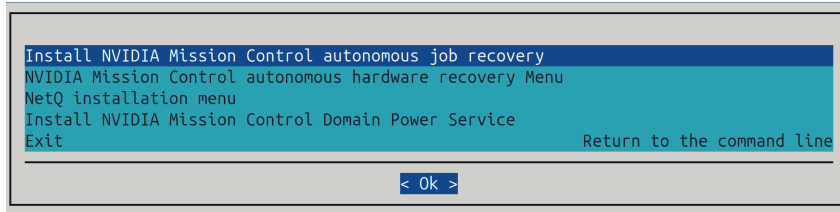

Figure 2.1: NetQ deployment: NetQ installation selection
1. The NetQ installation is selected (figure 2.1):